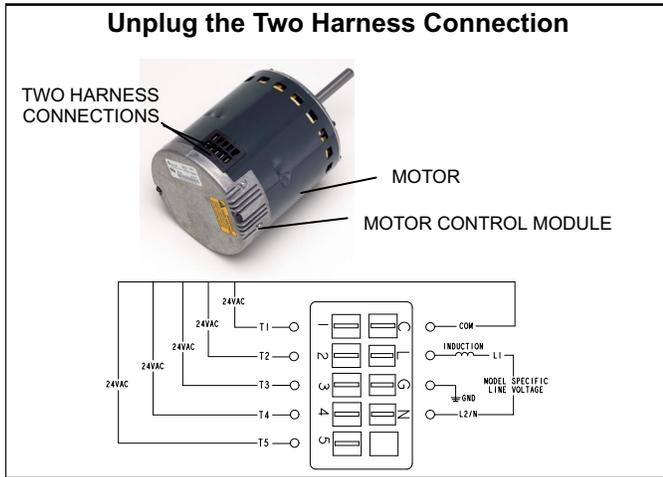

FIGURE 18
3. Unplug the **two** harnesses from the motor control module. See figure 18.